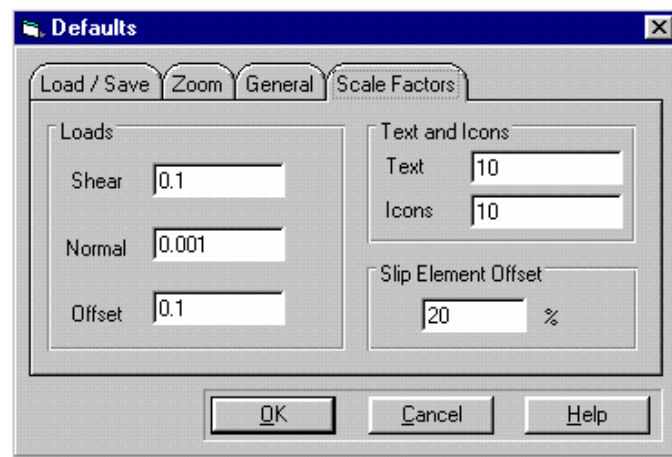

Figure 3-16: The Defaults dialog box
- Step 4** The Defaults dialog box should look like Figure 3-16. Click on **OK** to exit once you have finished.